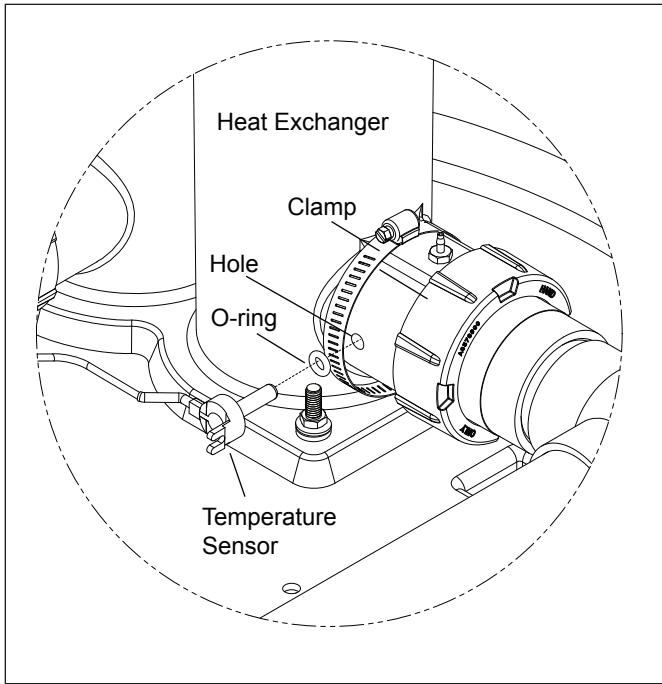

Figure 5. Water Sensor Installation, Revisions Q through Current
1. Install the new temperature sensor in the hole in the heat exchanger. See Figure 5.